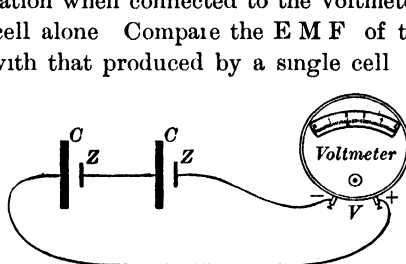

FIG. 58
**IV. Effect of series and of parallel connection on the E M F. of the combination.** (a) Join two simple cells *in series* (that is, the zinc, Z, of one to the copper or carbon, C, of the other (Fig 58)), and record the E M F of the combination when connected to the voltmeter